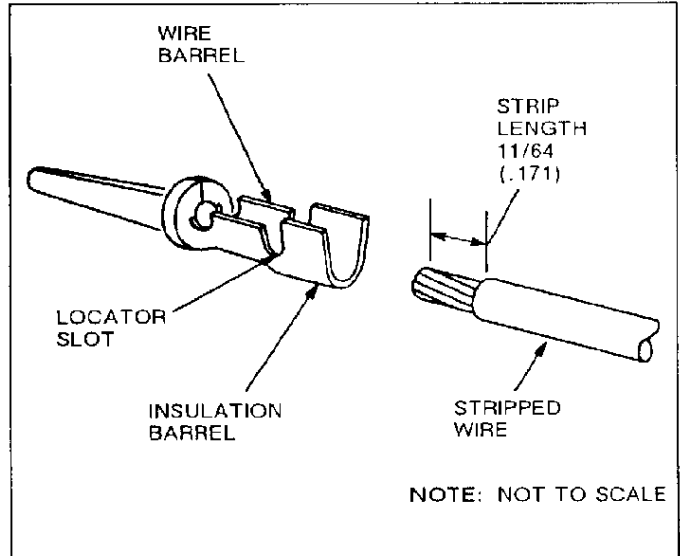

Fig. I-2
AMP Hand Crimping Tool 90206-3 is designed to crimp the Taper Pin loose-piece (LP) terminals listed in Figure I-2. Read these instructions carefully before proceeding.
Refer to the chart in Figure I-2, and then select wire of the specified size and insulation diameter. Strip the wire to the length indicated — do NOT cut or nick the wire strands.
*This tool is designed to crimp only the loose-piece terminals listed in Figure I-2. Do NOT use the tool to crimp single terminals that have been cut from a strip.*
1. Refer to the chart in Figure I-2, and select a terminal and a wire (maximum size) for each crimp section listed in the chart.
1. Select a terminal, wire (maximum size), and the designated crimp section for the wire you are using (see Figure I-2).